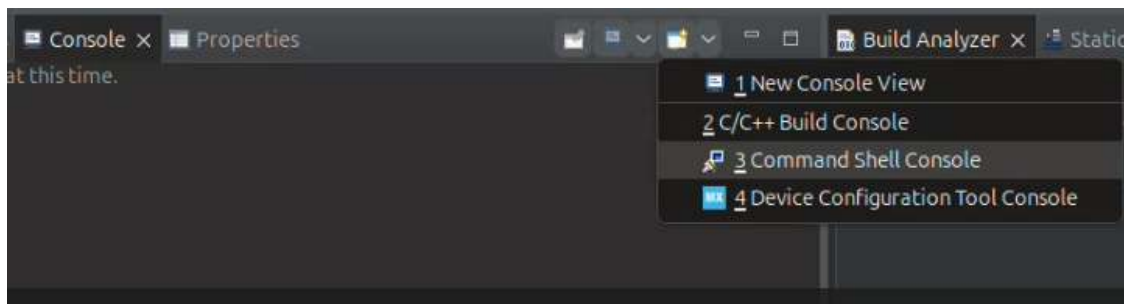

Figure 1: URAT input
- Figure 1 shows the steps to open command shell console.